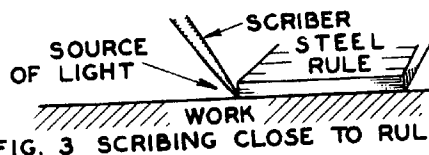

FIG. 3 SCRIBING CLOSE TO RULE
- Set the point of the scriber as close to the edge of the rule as possible by tipping the top of the scriber outward (Fig.3).